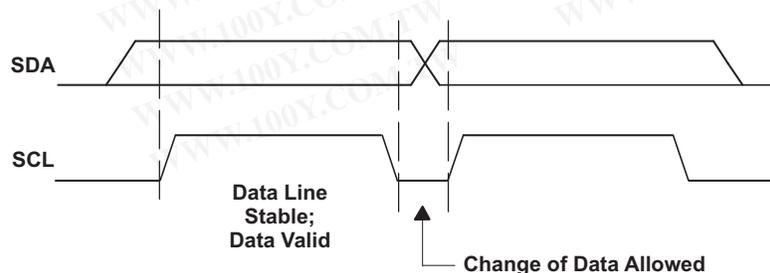

Figure 6. I²C Bit Transfer
- The *master* then generates the SCL pulses and transmits the 7-bit address and the *read/write direction bit* R/W on the SDA line. During all transmissions, the master ensures that data is *valid*. A *valid data condition* requires the SDA line to be stable during the entire high period of the clock pulse (see Figure 6). All devices recognize the address sent by the master and compare it to the respective internal fixed addresses. Only the slave device with a matching address generates an *acknowledge* (see Figure 7) by pulling the SDA line low during the entire high period of the ninth SCL cycle. On detecting this acknowledge, the master knows that a communication link with a slave has been established.